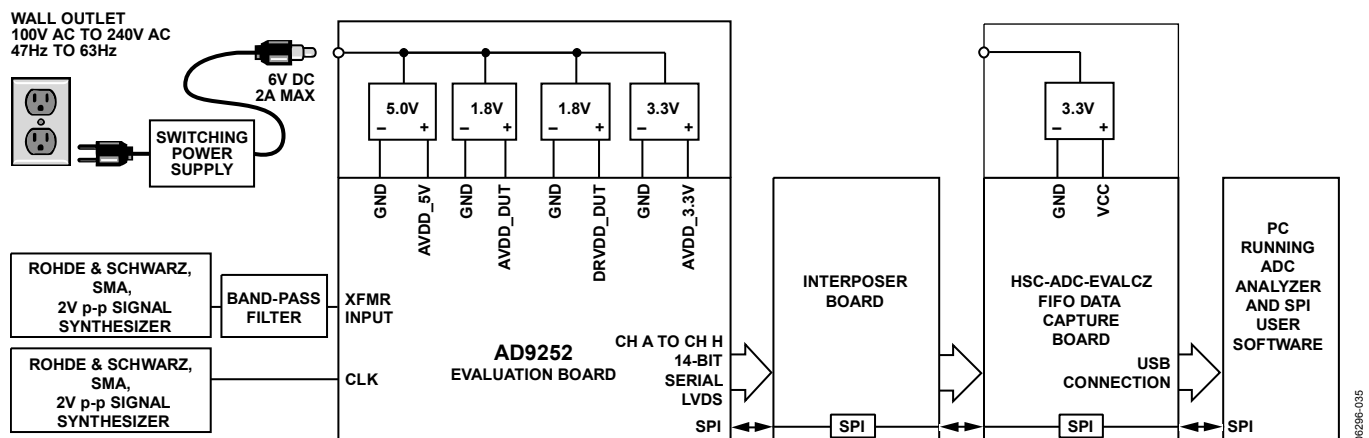
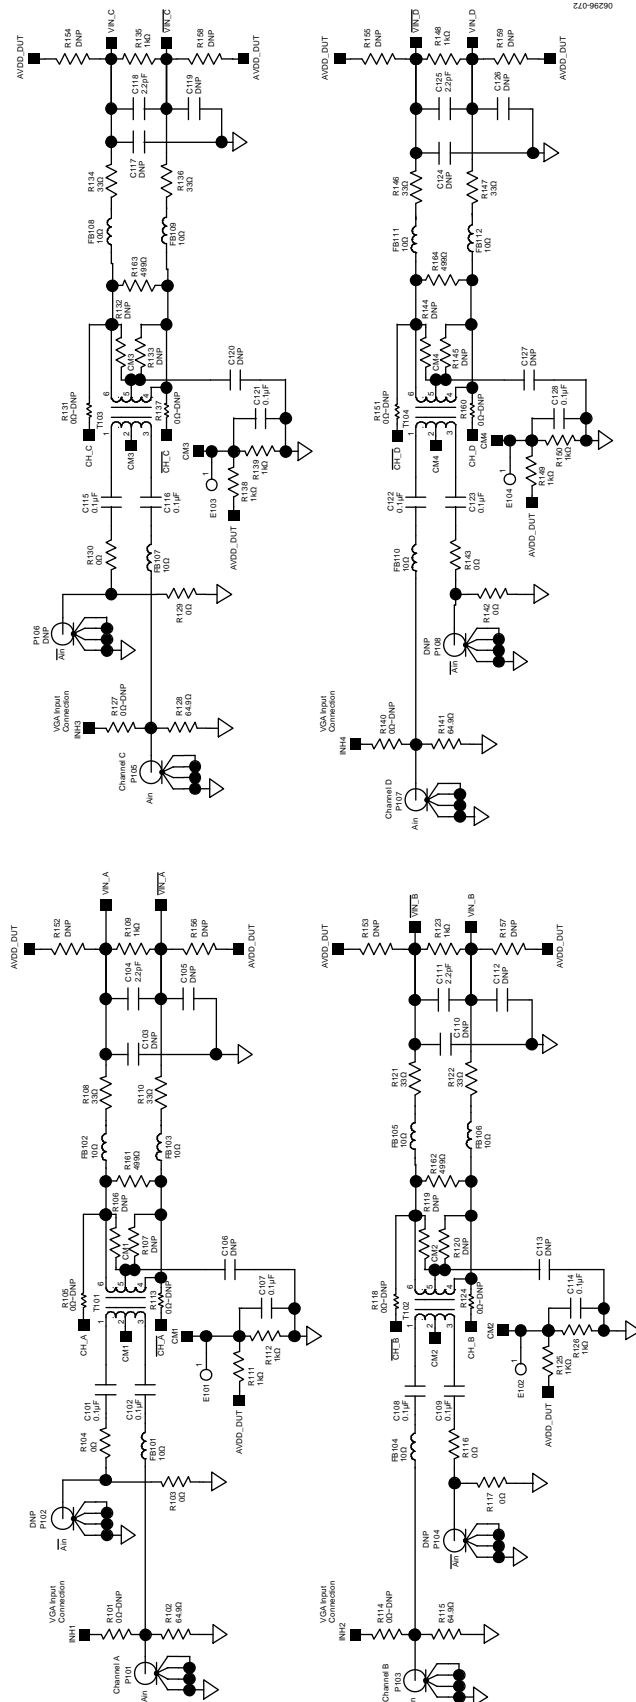
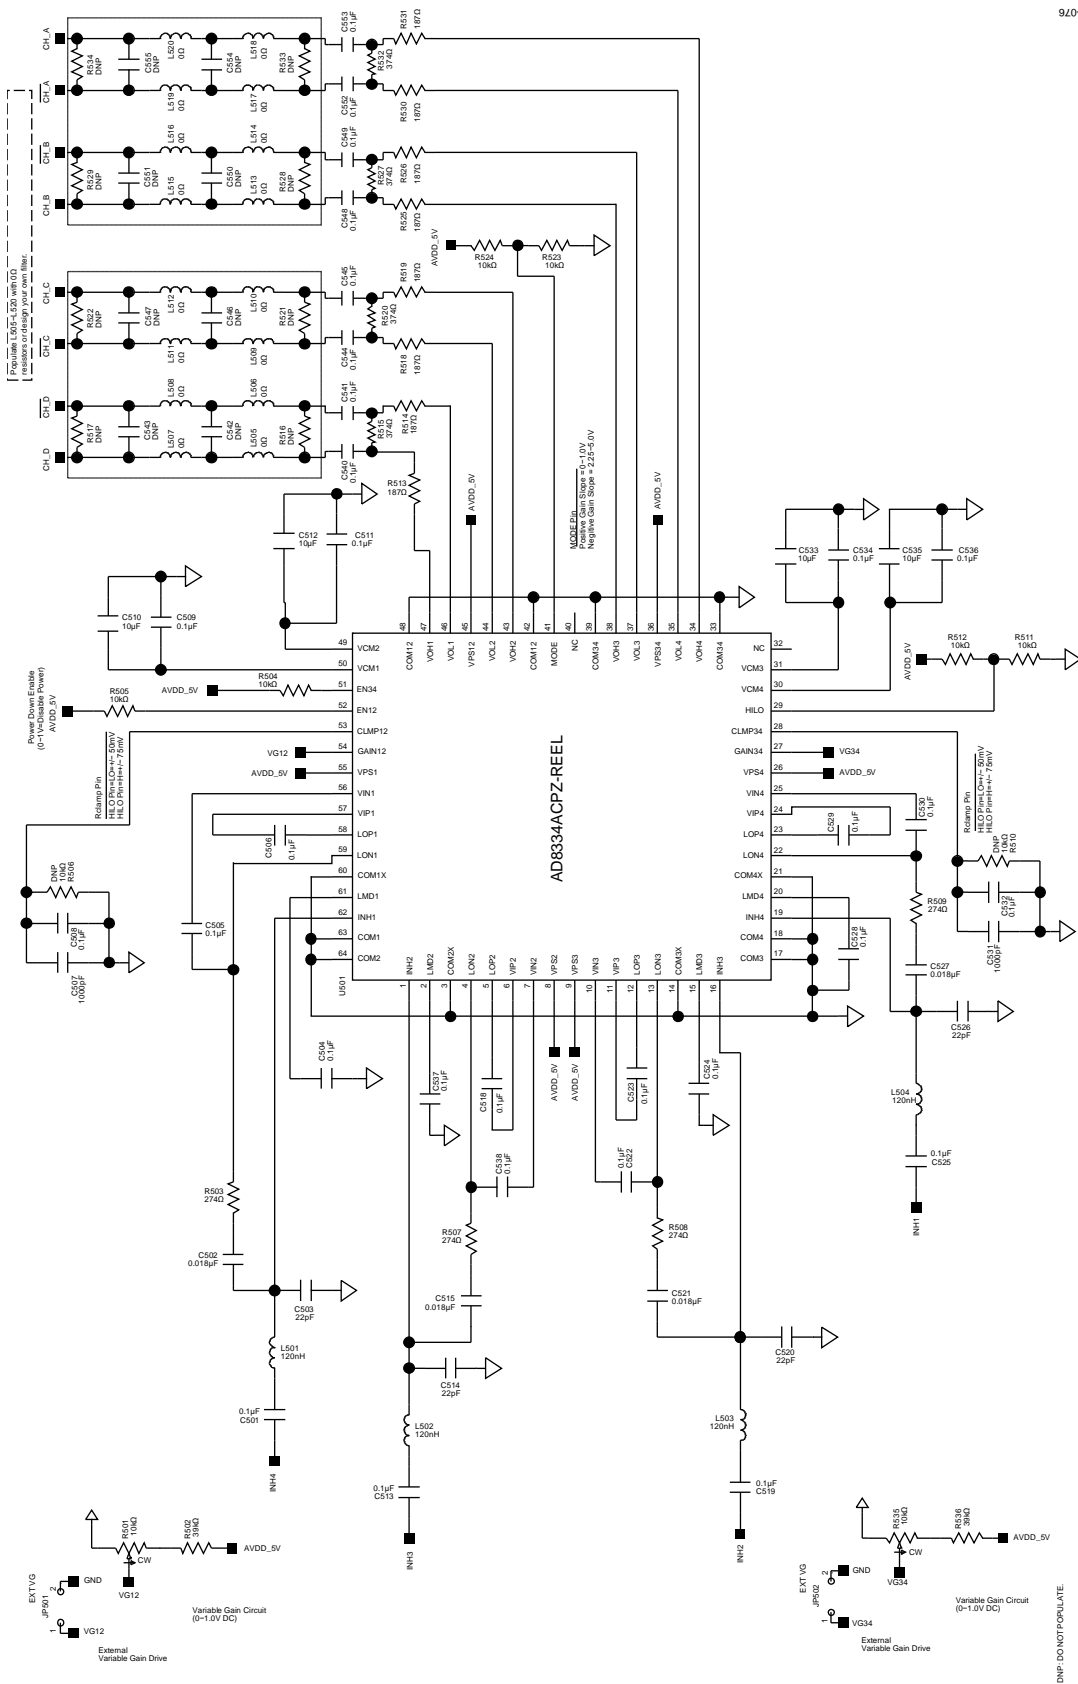
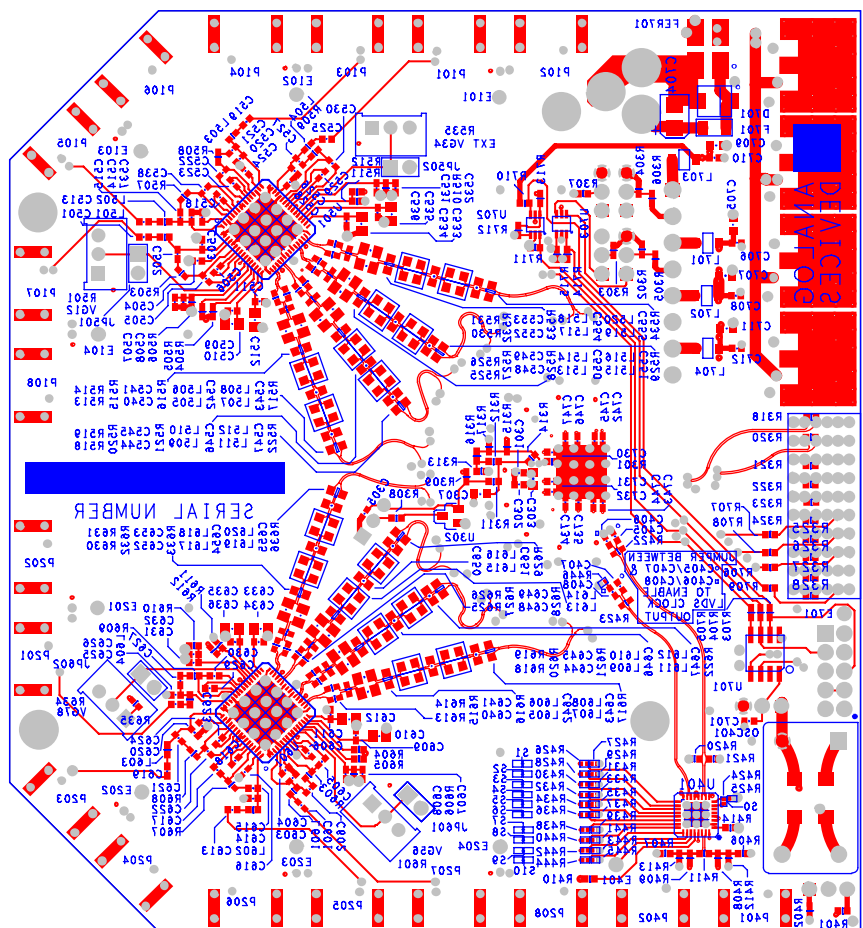

Figure 58. Evaluation Board Connection
Figure 62. Evaluation Board Schematic, DUT Analog Inputs
Figure 66. Evaluation Board Schematic, Optional DUT Analog Input Drive
Figure 72. Evaluation Board Layout, Secondary Side (Mirrored Image)
The AD9252 evaluation board provides all the support circuitry required to operate the ADC in its various modes and configurations. The converter can be driven differentially by using a transformer (default) or an AD8334 driver. The ADC can also be driven in a single-ended fashion. Separate power pins are provided to isolate the DUT from the drive circuitry of the AD8334. Each input configuration can be selected by changing the connections of various jumpers (see Figure 62 to Figure 66). Figure 58 shows the typical bench characterization setup used to evaluate the ac performance of the AD9252. It is critical that the signal sources used for the analog input and clock have very low phase noise (<1 ps rms jitter) to realize the optimum performance of the converter. Proper filtering of the analog input signal to remove harmonics and lower the integrated or broadband noise at the input is also necessary to achieve the specified noise performance.
See Figure 62 to Figure 72 for the complete schematics and layout diagrams demonstrating the routing and grounding techniques that should be applied at the system level.
- **D + x, D - x:** If an alternative data capture method to the setup shown in Figure 62 is used, optional receiver terminations, R318 and R320 to R328, can be installed next to the high speed backplane connector.